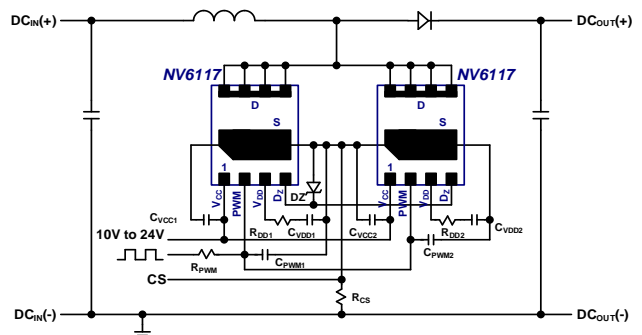

Fig.25. Boost schematic using two parallel ICs
For some applications it is desirable to parallel ICs in order to reduce conduction losses and temperatures. Two NV6117 ICs can be connected in parallel in a PFC boost application working in boundary-conduction mode (BCM) only. The parallel configuration for two NV6117 ICs is shown in Fig.25. The paired pins that are connected together include the drain pins (D), the source pins (S), the V_{CC} pins, the PWM pins, and the D_Z . A single D_Z diode can be shared by both ICs. The V_{DD} pins are not connected together and require separate V_{DD} supply capacitors (C_{VDD1} , C_{VDD2}) and separate turn-on current set resistors (R_{DD1} , R_{DD2}). Each IC should have its own local V_{CC} supply filter capacitor (C_{VCC1} , C_{VCC2}). The PWM pins can have a single filter resistor (R_{PWM}) but separate filter capacitors (C_{PWM1} , C_{PWM2}) should be placed at the PWM pin of each IC. When designing the PCB layout for the two paralleled ICs, the drain and source connections should be made as symmetrical as possible to avoid any parasitic inductance or capacitance mismatch. A proper PCB layout example for paralleling is shown in Section 11.